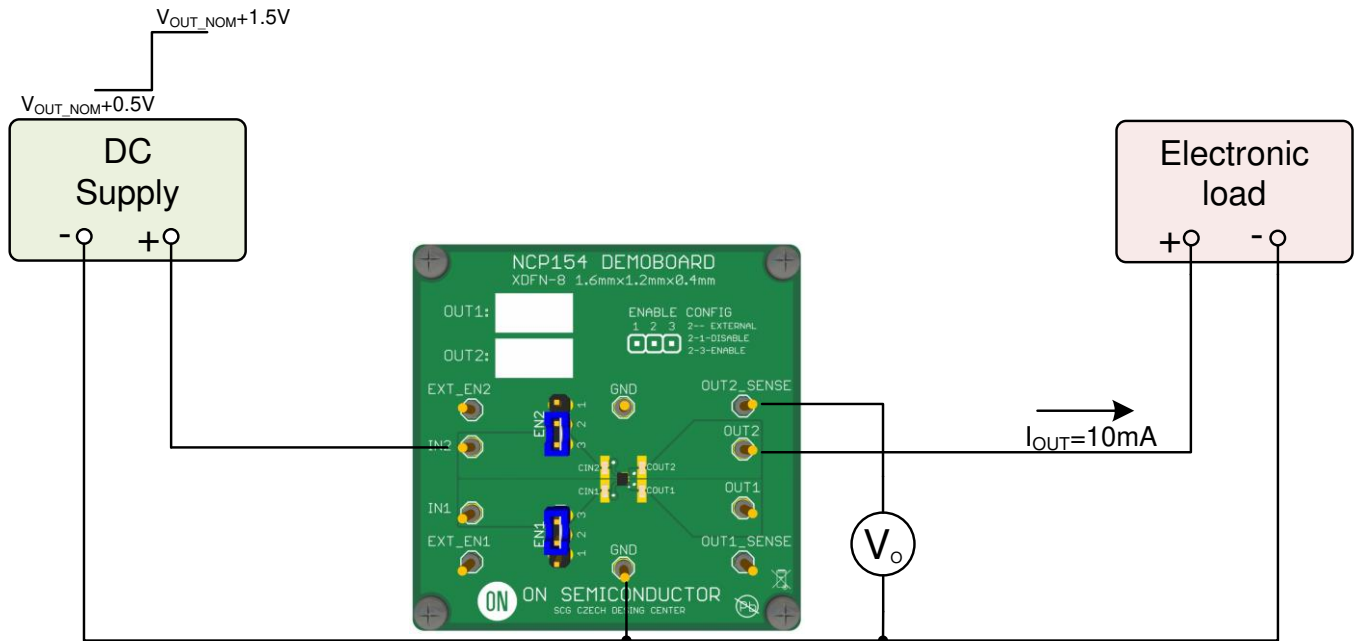

Figure 3: Test configuration for measurement REG_{LINE}, Line Regulation
1. Connect circuit as shown on figure 3